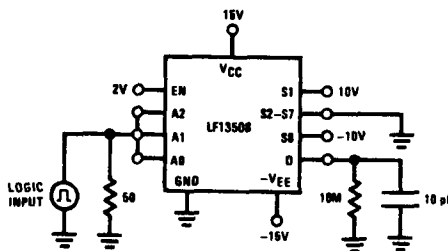

FIGURE 1. Transition Time
- Note 5:** Lots are sample tested to this parameter. The measurement conditions of Figure 1 insure worse case transition time.